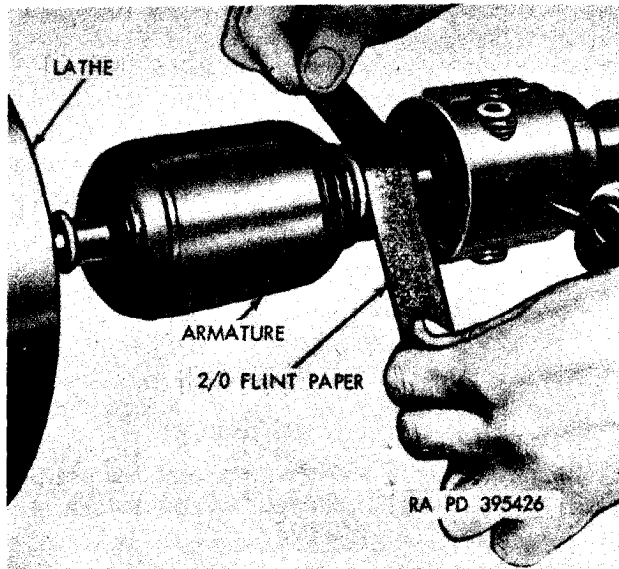

Figure 4-26. Polishing commutator with sandpaper.
c. Polishing Commutator. After the mica has been undercut, remove all copper and mica particles with compressed air. Polish the commutator in a lathe with No. 2/0 sandpaper (fig. 4-26) while the armature is rotating at 1500 rpm. After polishing the armature, check that the diameter is within the limits specified in repair standards (par. 4-41).